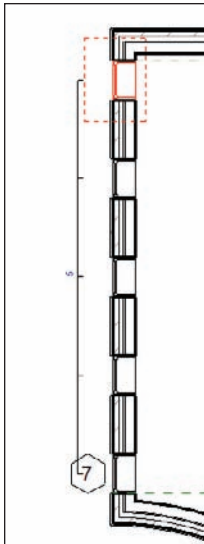

FIGURE 4.23 Changing the number of items in the array. You can always come back to the arrayed group and change this value at any time.
18. After you pick the second point, you will have to wait a moment; then Revit will evenly fill the void with the two additional windows. Also, Revit will give you the option of adding additional windows. Enter a value of 5 and press Enter (see Figure 4.23).